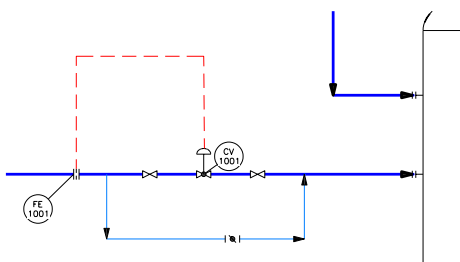

Figure 2-74 Electric signal created on the feed line
9. Similarly, create an electrical signal on the pipe connecting the vessel, as shown in Figure 2-74.